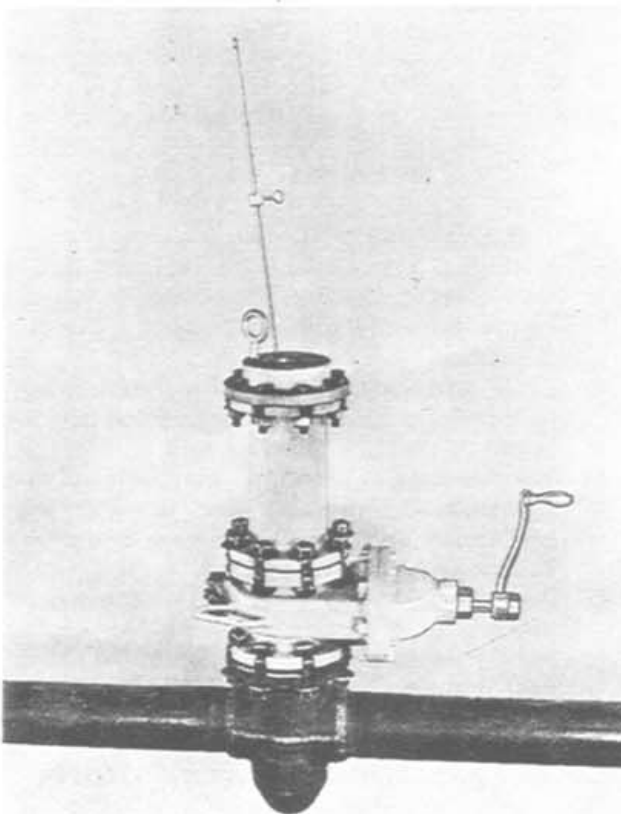

FIGURE 36
2. Bolt H-17619 Inspection Flange to drilling machine adapter. Check to be sure gasket is in good condition and in place. **Figure 36.**